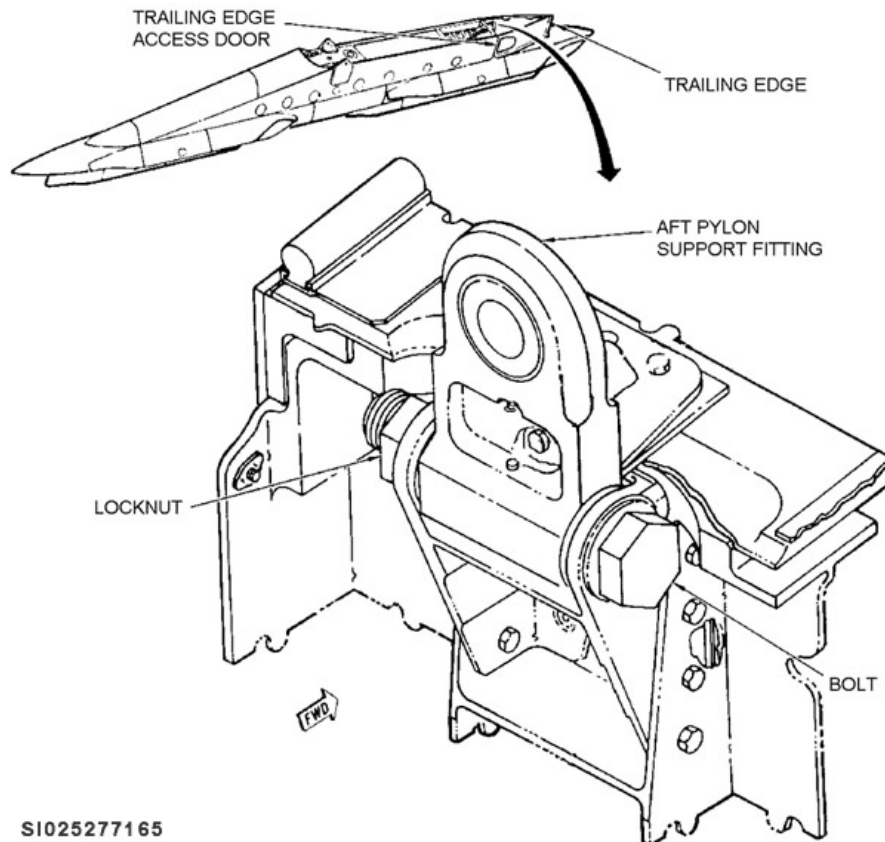

Figure 3-7. Aft pylon support fitting.
2. Torque the aft pylon support fitting to 875 ± 125 in-lb. (fig. 3-7).